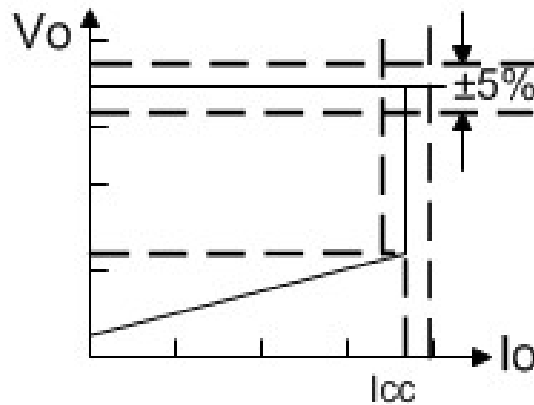

Fig.1 : Typical CC/CV curve
The ME8311 is a high performance offline PSR controller for low power AC/DC charger and adapter applications. ME8311 integrates a high voltage power MOSFET of 600V, 1A. It operates in primary-side sensing and regulation. Consequently, opto-coupler and ME431 could be eliminated. Proprietary Constant Voltage (CV) and Constant Current (CC) control is integrated as shown in the figure.1 below.
ME8311 is designed to produce good CC/CV control characteristic as shown in the Fig.1. In charger applications, a discharged battery charging starts in the CC portion of the curve until it is nearly full charged and smoothly switches to operate in CV portion of the curve. The CC portion provides output current limiting. In CV operation, the output voltage is regulated through the primary side control. In CC operation mode, ME8311 will regulate the output current constant regardless of the output voltage drop.